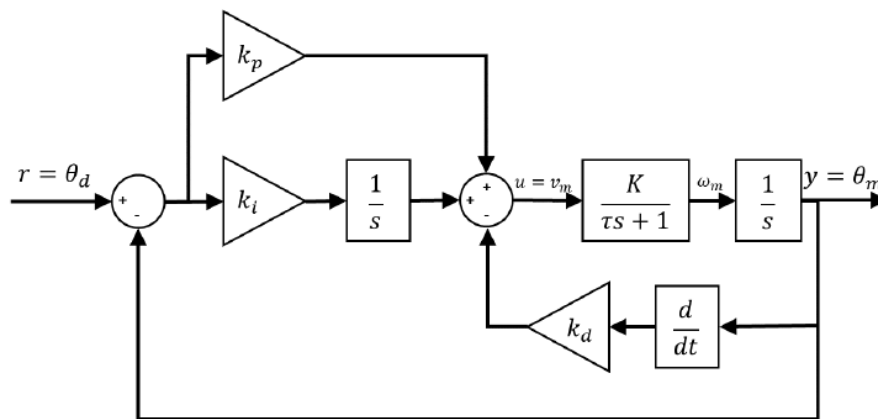
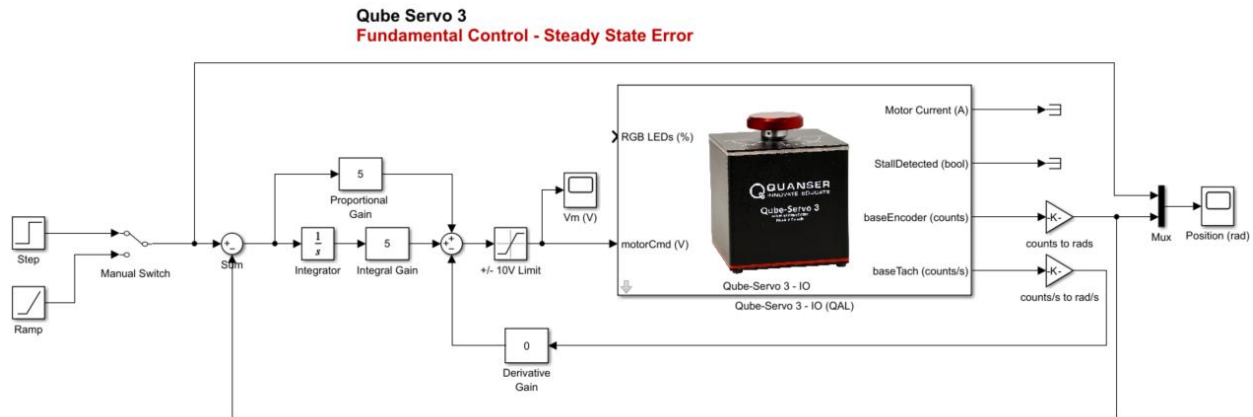

Figure 1: Block diagram of a PID controller
Figure 2: Simulink/QUARC model implementing PID position control.
Note that in the PID controller for this lab, the derivative gain is applied to the derivative of the output (that is, the velocity of the inertia disc) as shown in Figure 1 and this is sometimes called PIV control.
Use the `qs3_sse.slx` file. This model will implement a PID controller as described in the PID concept review and in Figure 1. Use the gain value found in previous labs to convert the encoder counts to radians and counts/s to rads/s. Connect all the blocks as shown in Figure 2. Use the manual switch to select either a step or ramp input.
4. Open the completed `qs3_sse.slx` Simulink model, as shown in Figure 2.